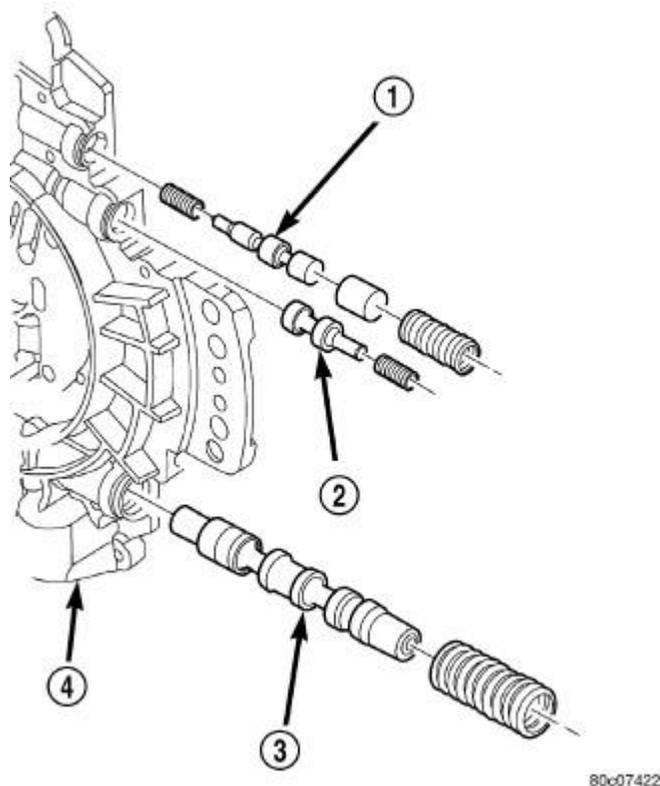

Fig. 174: T/C Regulator Valve, T/C Limit Valve & Regulator Valve
11. Remove the T/C regulator valve (1), T/C limit valve (2), and regulator valve (3). Refer to **Fig. 174**.